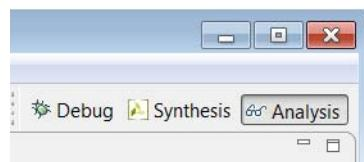

Figure 6-6: Opening the Analysis Perspective
1. Click the **Analysis** perspective button (Figure 6-6) to begin interactive design analysis.